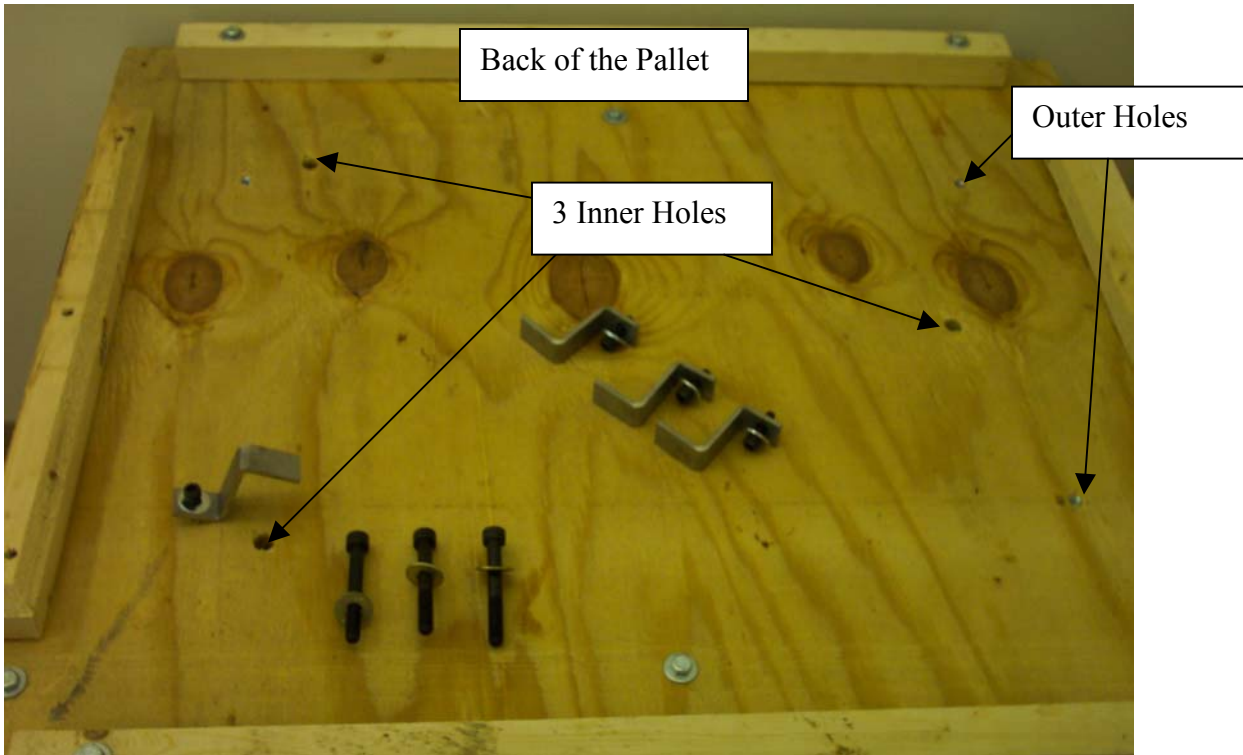

Figure 7
- 19.) The Pallet caddy has seven holes on it, the three inner holes are for bolting down the instrument from under the pallet, using the 3 metric Socket-head Cap Screws-M10 (Figure 7). The four outer holes with embedded threaded nuts are for bolting down the instrument with 4 Z-Brackets and standard short socket-head cap screws
Place the instrument on pallet caddy so that 2 of the inner holes are on your left hand side (Figure 7).